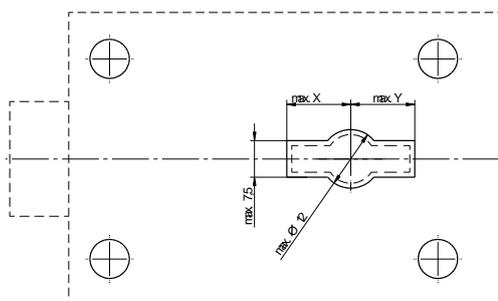

Fig. 2: Maximum cross sectional area of keyhole
- In cases where the Kaba Mauer key guide or key carrier guide are not used, the maximum cross sectional area of the keyhole in the door of the secure storage unit and/or the lock armour plating may not exceed the dimensions given in Fig. 2 considering DIN 2768-mH. All dimensions deviating from these specifications are to be coordinated separately with the certification bodies (test houses).